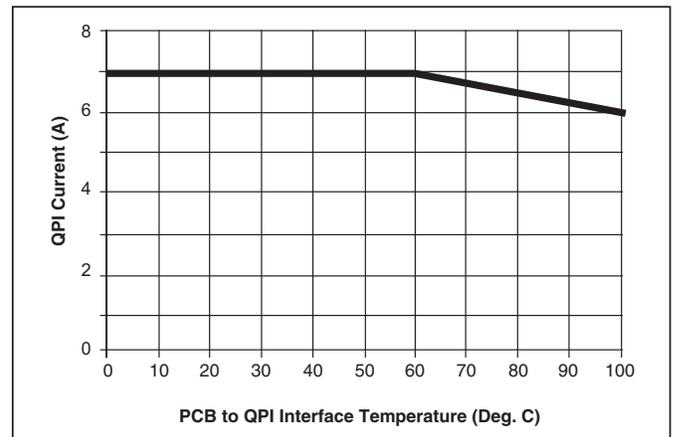

Figure 5 – QPI-4 current derating curve.
- -40° to +100°C PCB temperature (See Fig. 5)
**Note 3:** Refer to Figure 5 for current derating curve.
The current derating curve shown in Figure 5 should be used when the PCB temperature in close proximity of the QPI-4 exceeds 60°C. For example, the QPI-4 will support up to 6.5 A of current or 312 W from a 48 Vdc bus at an 80°C interface temperature. Temperature should be measured at the PCB interface to the QPI-4 on the Bus +/- pads or the QPI+/- pads. Refer to Figures 9, 10 & 12 for PCB layout recommendation.